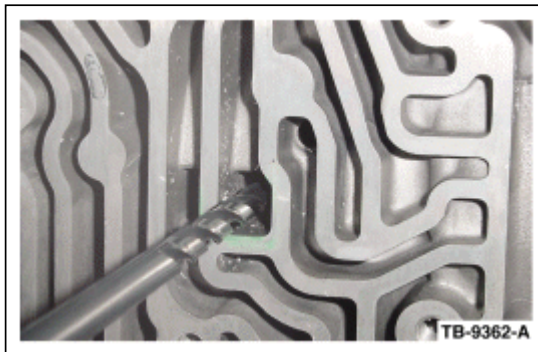

Figure 7 - Article 09-12-12
- b. Intermediate servo. (Figure 7)